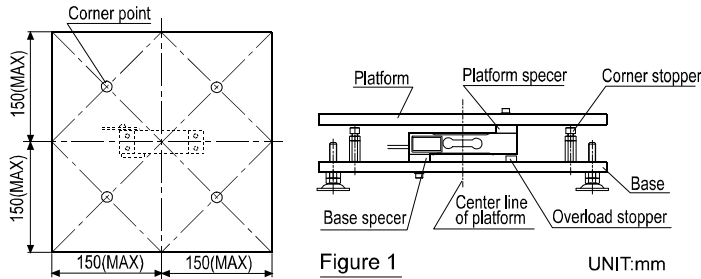

Figure 1 UNIT:mm
(6) For the allowable dimensions of the platform, see Figure 1. Also, when designing a platform, see the "3-3 OVERLOAD PRECAUTIONS".